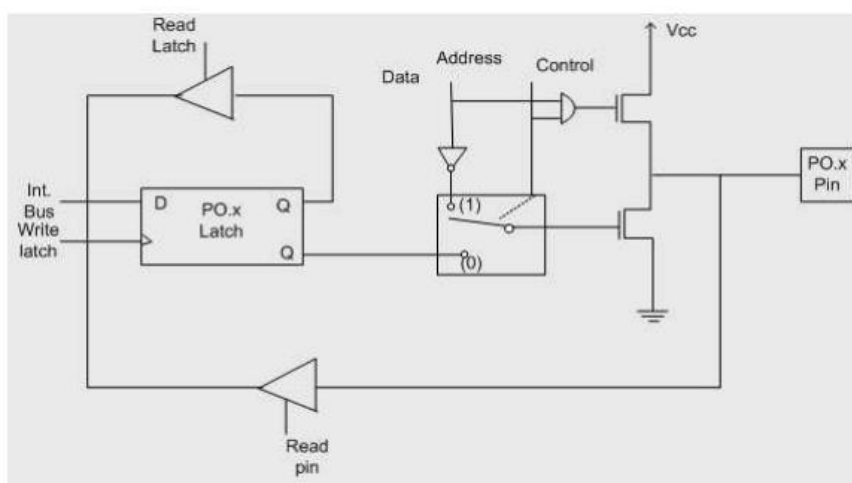

Fig. 1.5: Port -0
1. Port -0 has 8 pins (P0.0-P0.7). The structure of a Port-0 pin is shown in Fig.1.5. Port-0 can be configured as a normal bidirectional I/O port or it can be used for address/data interfacing for accessing external memory.